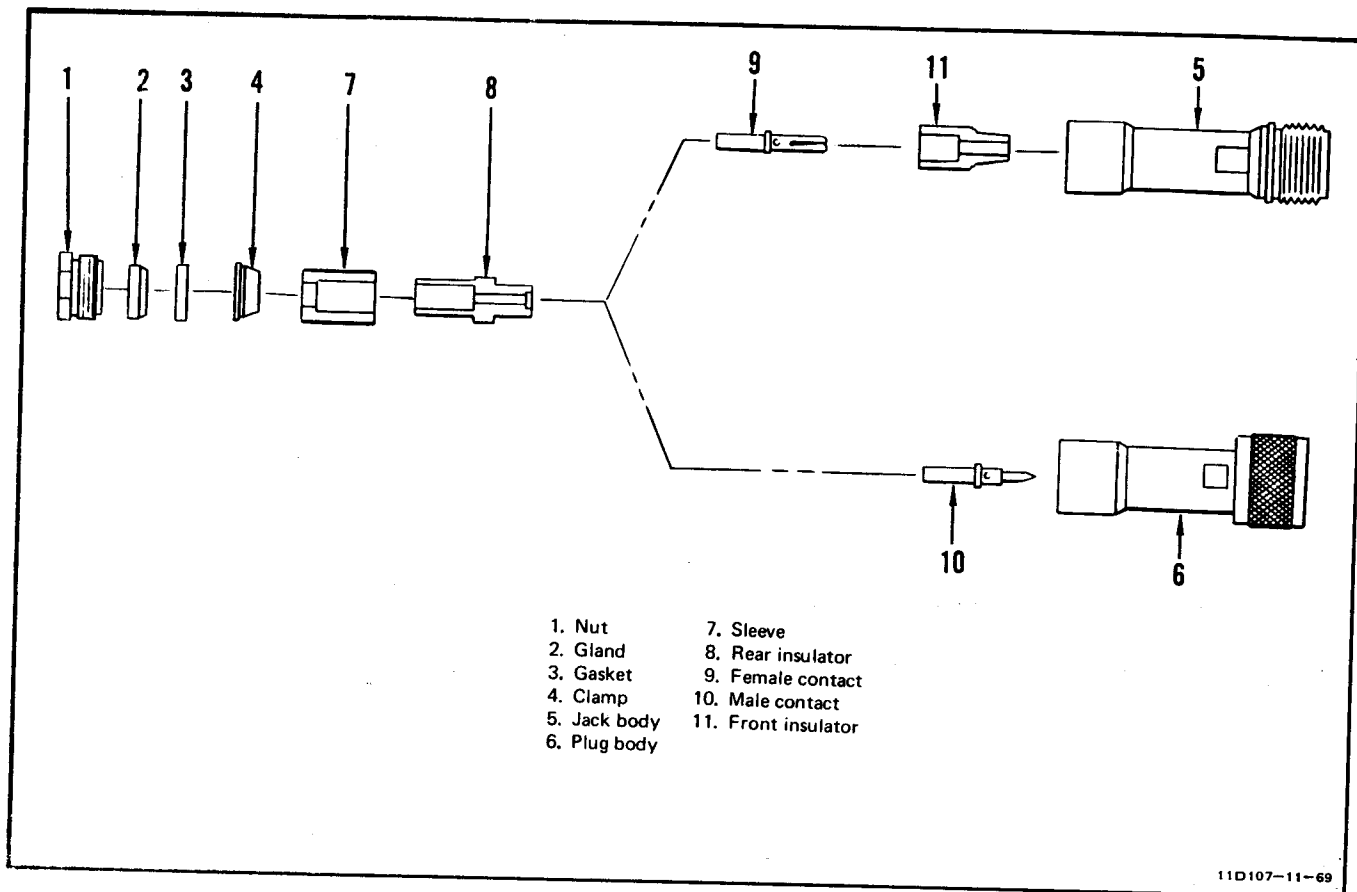

Figure 11-52. HN Series Coaxial Connectors - Captive Contact
**11-132. Disassembly.** (See figure 11-52.)
a. Disassemble nut (1), gland (2), gasket (3), and clamp (4) from connector jack body (5) or connector plug body (6).
b. Remove cable assembly from connector body. The sleeve (7), rear insulator (8), female contact (9), or male contact (10) is removed as part of the cable assembly.
c. Remove front insulator (11) from connector jack body.
11-134. **Assembly.** (See figure 11-52.)